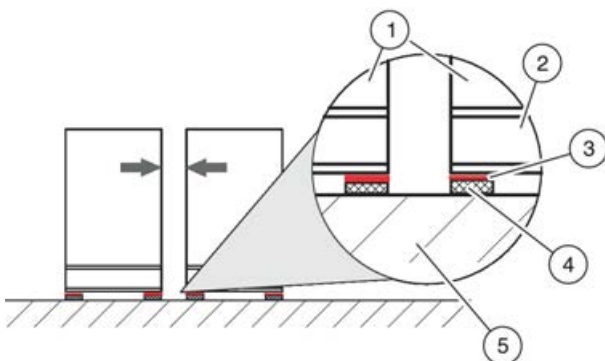

Fig. 13: Unit arrangement with anti vibration elements
Slide plates (Fig. 13 /3) considerably simplify the process of positioning the AHU casing units (Fig. 13 /1) on a surface with a high friction coefficient, such as rubber or elastomer sheets (Fig. 13 /4).
- ▶ Position the slide plates (Fig. 13 /3, by others) under the base frames (Fig. 13 /2) of the AHU casing units (Fig. 13 /1).